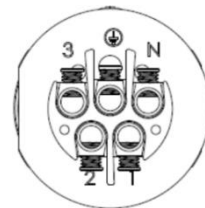

Figure 6-10 Schematic diagram of pin definition
Step 2: Strip the cables to an appropriate length, insert them into the plug cap and nut, connect them to the plug according to the wiring sequence shown in Figure 6-10, and tighten them.